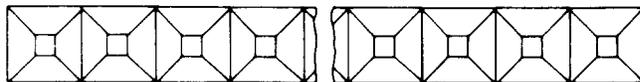

Fig. 6—KS-21302-Type Connector
**2.04 KS-21302 Type:** The KS-21302-type connectors are a series of receptacle and pin connectors (Fig. 6), designed to engage .025-inch by .025-inch square pins arranged in single or double rows. The contacts are supplied separately from the insulators. The contacts are terminated to conductors by crimping, and are then inserted into the insulators. The user is responsible for the tooling, termination methods, and quality of the crimp. These connectors are designed to mate with the KS-21307-type connectors of similar contact configurations. Normally, insulators with 40 through 72 positions should be equipped with List 50 or List 53 contacts; insulators with 10 through 50 positions should be equipped with List 51 or List 54 contacts; and insulators with 20 po-